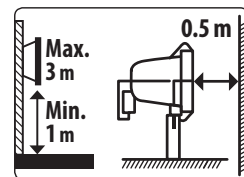
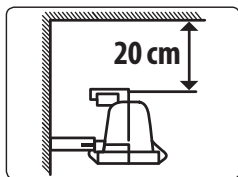

Fig. 2
Fig. 3
- Mount the floodlight at a height of 1-3 m above the ground. The direct distance of the floodlight from the illuminated object should be at least 0.5 m (Fig. 2). When the floodlight is mounted in a corner then it must be at least 20 cm away from the ceiling (Fig. 3).